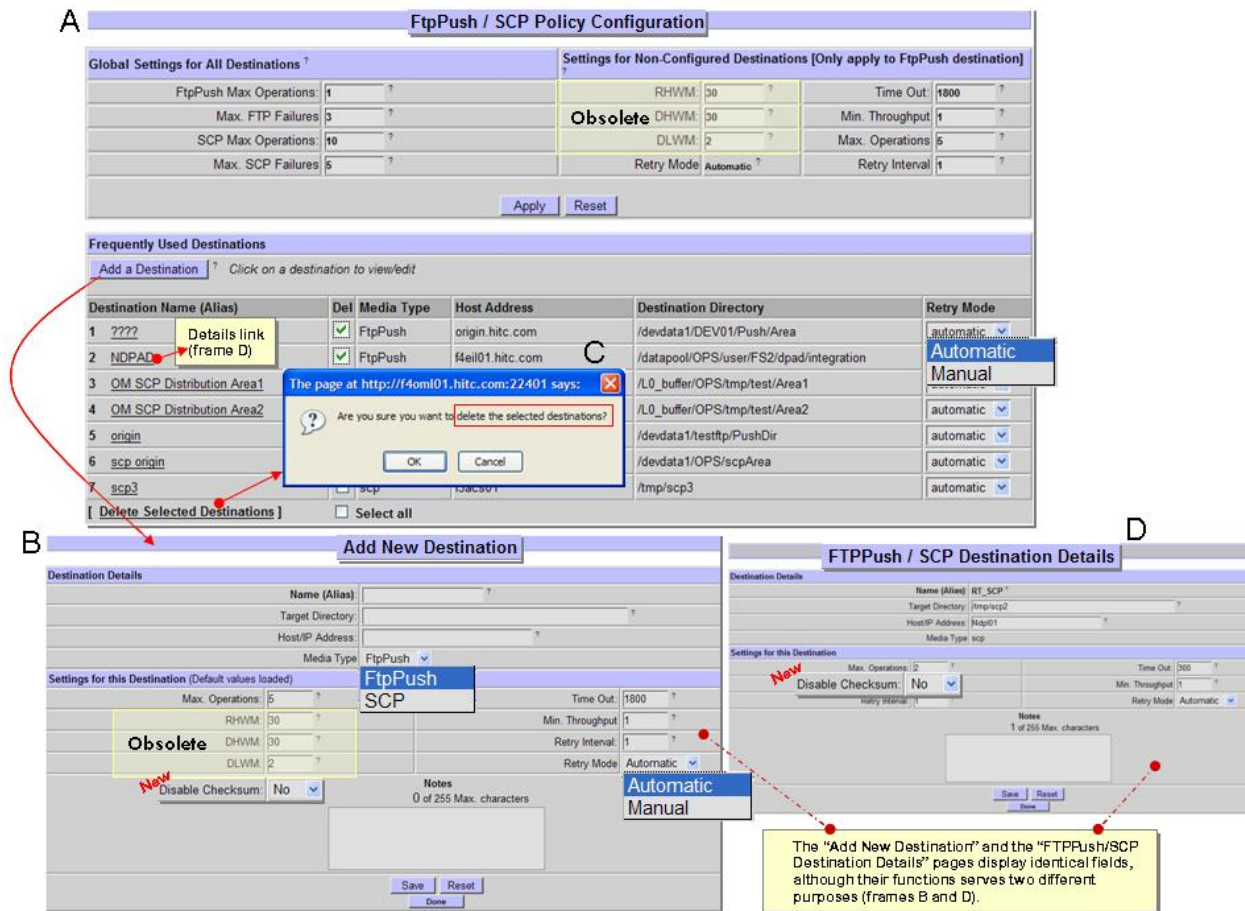

Figure 15.10-9. FtpPush/SCP Policy Configuration Page
The **FtpPush/SCP Policy Configuration** page (Figure 15.10-9, Frame A) provides the full-capability Operator the ability to define, configure and fine-tune parameter values of FtpPush/SCP destinations.
- 2 Click **FtpPush/SCP Policy** submenu option to display the **FtpPush/SCP Policy Configuration** page (Figure 15.10-9).
- The **FTPPush/SCP Destination Details** page displays (Figure 15.10-9, Frame D).
- The “**Are you sure you want to delete the selected destinations?**” dialog box displays (Figure 15.10-9, Frame C).
- The **Add New Destination** page displays (Figure 15.10-9, Frame B).